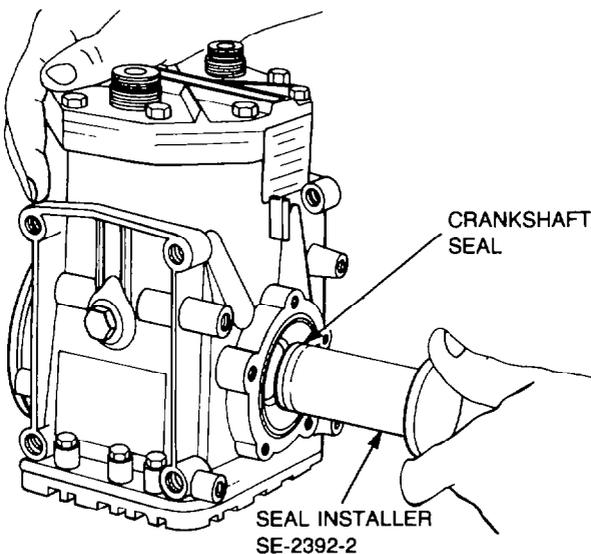

Figure 344 — Crankshaft Seal — Installation
- j. Coat the crankshaft seal with clean compressor oil, then install the seal, less the carbon ring, over the end of the crankshaft with the carbon ring retainer facing out. Using special tool SE-2392-2 push the seal onto the crankshaft until the seal is firmly seated (see Fig. 344).